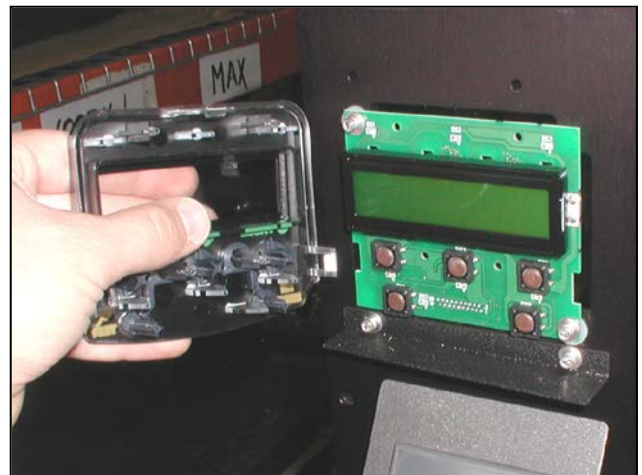

Figure 3-137. Remove Face Plate
5. Remove Face Plate (Figure 3-137).